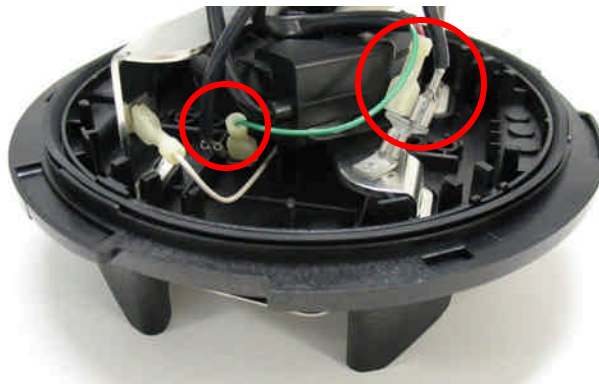

Figure 13: Final Power Lead Configuration
16. The final configuration will have two new 'Y' connectors installed on the meter base. Figure 13 depicts the final configuration for the power leads.